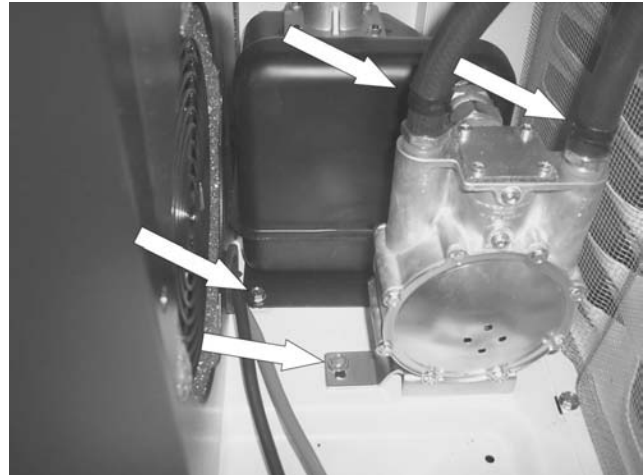

Figure 12.
- Remove fuel regulator: Remove the two fuel hoses at the top of the regulator. Using a 10mm socket remove one 10mm bolt from the base of the plenum and one 10mm bolt from the base of the fuel regulator. Flex the enclosure side out to allow for room to remove the regulator assemble. See Figure 12.